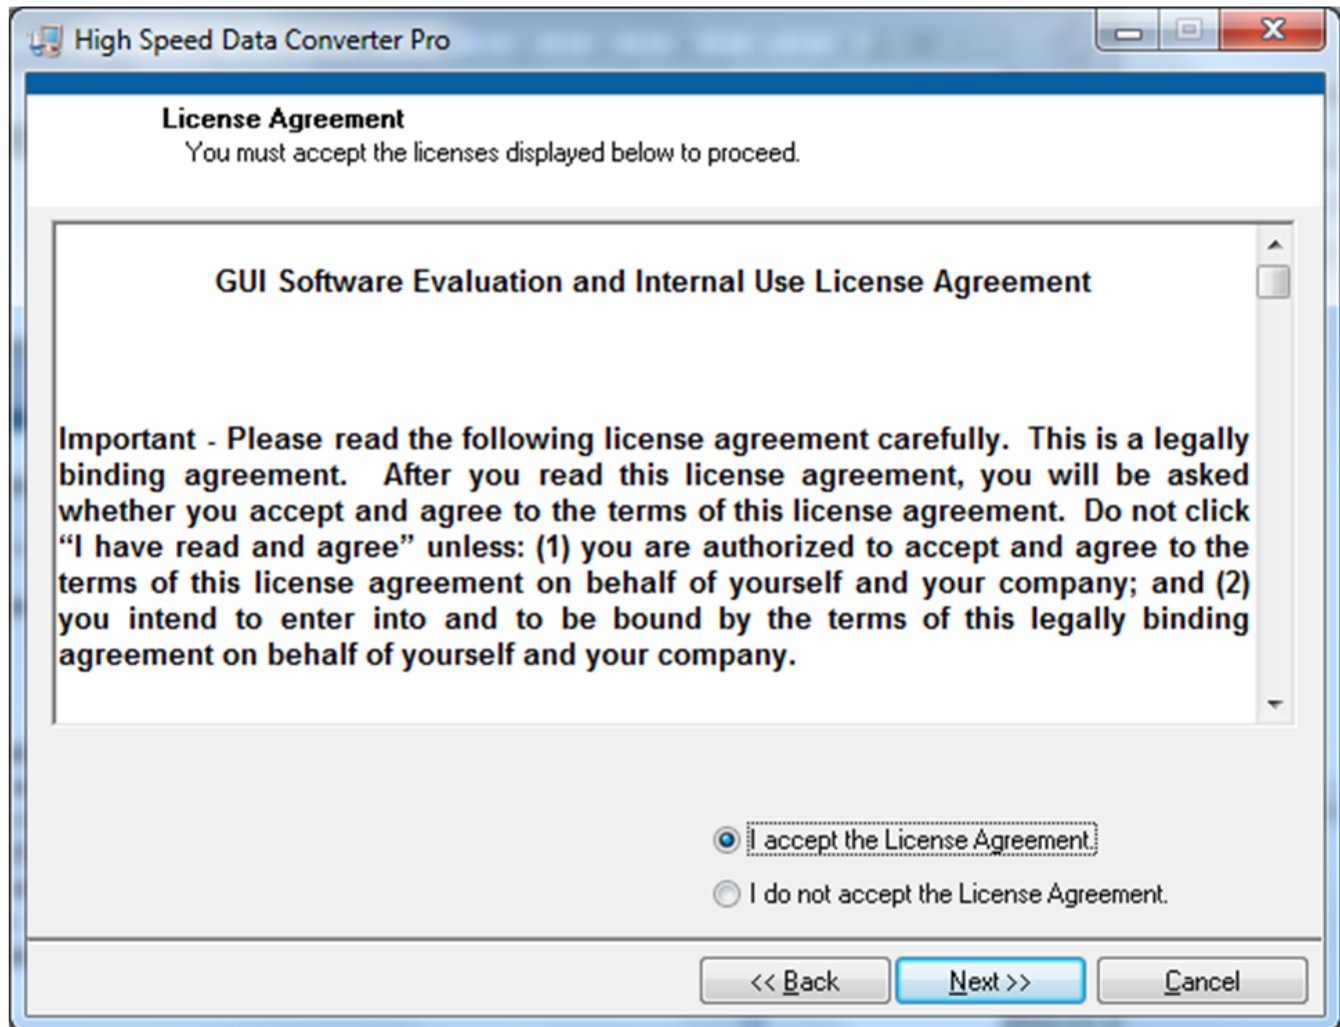

Figure 42. HSDCPro Install (TI License Agreement)
- Read the License Agreement from Texas Instruments and select *I accept the License Agreement* and press the *Next* button as shown in Figure 42.